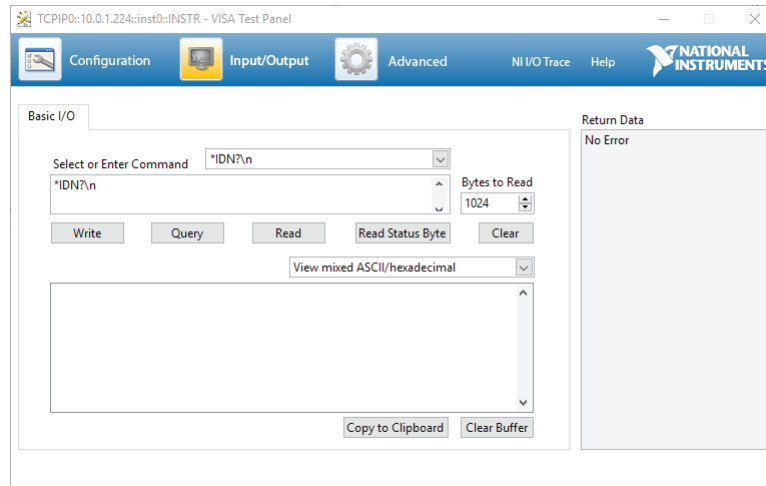

Figure 11
10. Commands are sent and queries can be received from this panel (fig. 11). This panel can be used to test remote connections and troubleshoot because it is able to establish communication with the instrument without the need of any code or software (aside NI VISA).